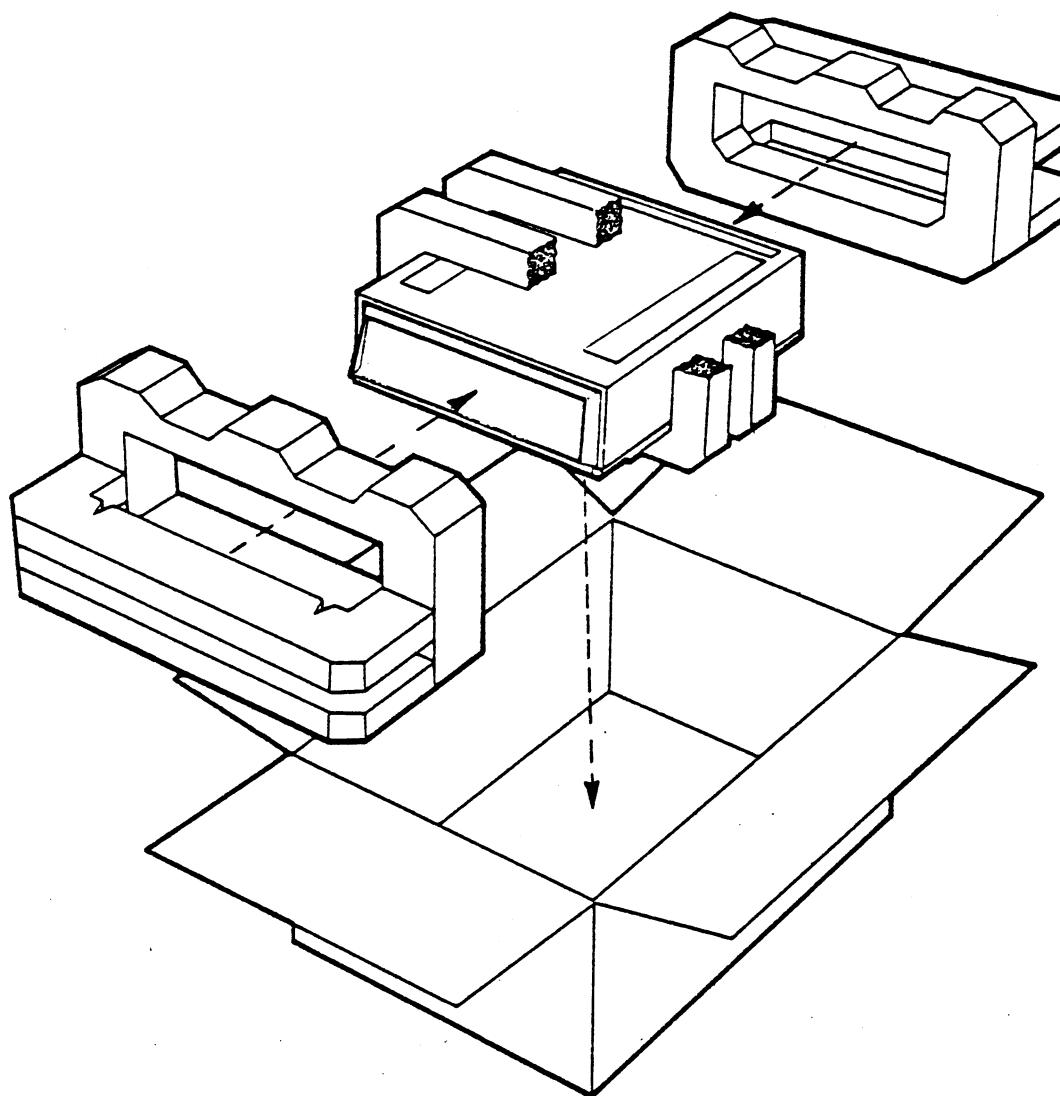

Figure 2-1. 1842 Dual Diskette Shipping Container
- a. The dual diskette is packed as shown in Figure 2-1. Carefully remove the dual diskette with packing from the container. Verify that all items are present as stated on the shipping list. Missing items must be recorded.